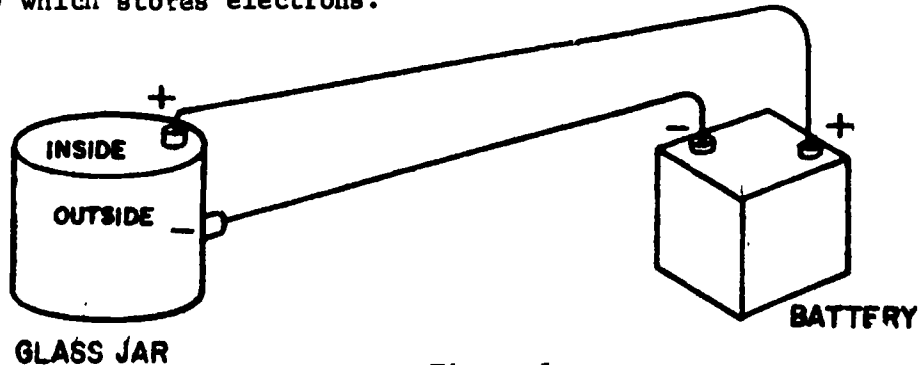

Figure 1.
Figure 1 above, illustrates a glass jar, two conductors and a battery. The inside and outside of the glass jar is wrapped with copper foil. The positive terminal of the battery is connected to the inside piece of foil. While the negative terminal is connected to the outside piece of foil. There is no connection between the two conductors as the glass jar separates them. It insulates the inside and outside copper foil from one another. We now have the three essential parts of any capacitor; two conductors, and an insulator. Each of these three parts has a specific name. The conductor (inside foil) connected to the positive post of the battery is called the anode. The conductor (outside foil) connected to the negative post, is called the cathode. The insulator (glass jar) is called the dielectric.
- \_\_\_ 3. The glass jar used in figure 1 would be an example of a conductor.
- \_\_\_ 4. The foil used in figure 1 would be an example of an insulator.